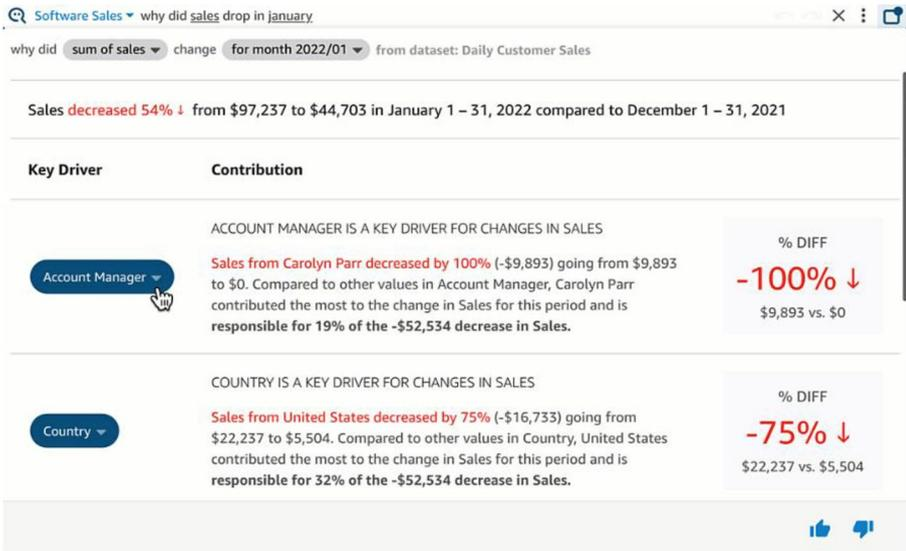

Figure 6-41. Ask “why” feature in Amazon QuickSight
- **Ask “why”:** This feature allows users to identify key drivers behind changes in the data through contribution analysis, quantifying the impact of each driver on the observed outcomes. Figure 6-41 shows an example.